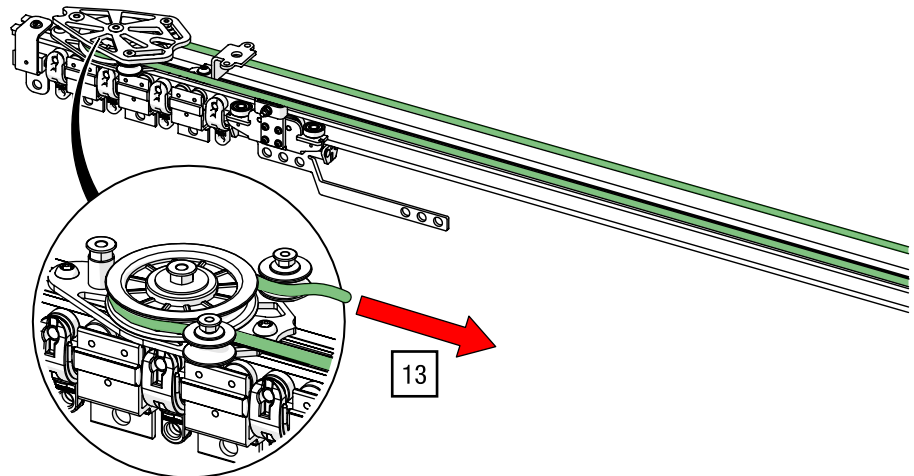

Fig. 81: Side cord operation – Guide the end of the cord through the return pulley
13. Guide the end of the cord through the return pulley (see Fig. 81).